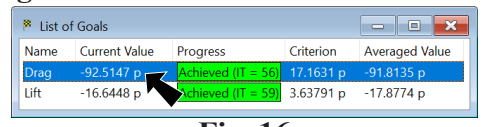

Fig. 16
- Step 2. When the calculation is done view the drag in the Solver, click Insert Menu > Goal Table, **Fig. 16**. Our drag was **-92.51**.